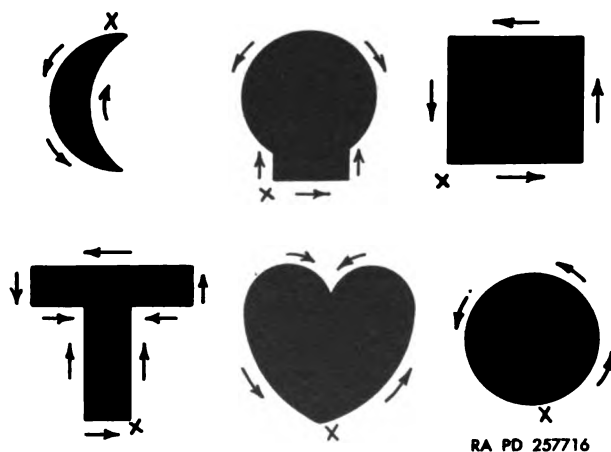

Figure 246. Direction of cutting shapes with shears.
(2) *Curved cuts.* When cutting curves, the cut should be continuous. Stopping and starting at different points on a line results in rough edges and sharp slivers of metal, which will cause an injury to the fingers. Curved blade and hawk bill shears are generally used for cutting out small, intricate designs, including curves. The offset handles of these shears are convenient to use in tight places. When cutting shapes from sheet metal with straight shears, it is important to make the cuts in the right direction. Figure 246 indicates the starting point by an X and the arrows shows the direction in which the cuts should be made for various shapes. When a hole or opening is to be cut in sheet metal with a pair of shears, lay the metal on a lead or hardwood block. Use a hollow punch or small cold chisel and punch a hole large enough so that